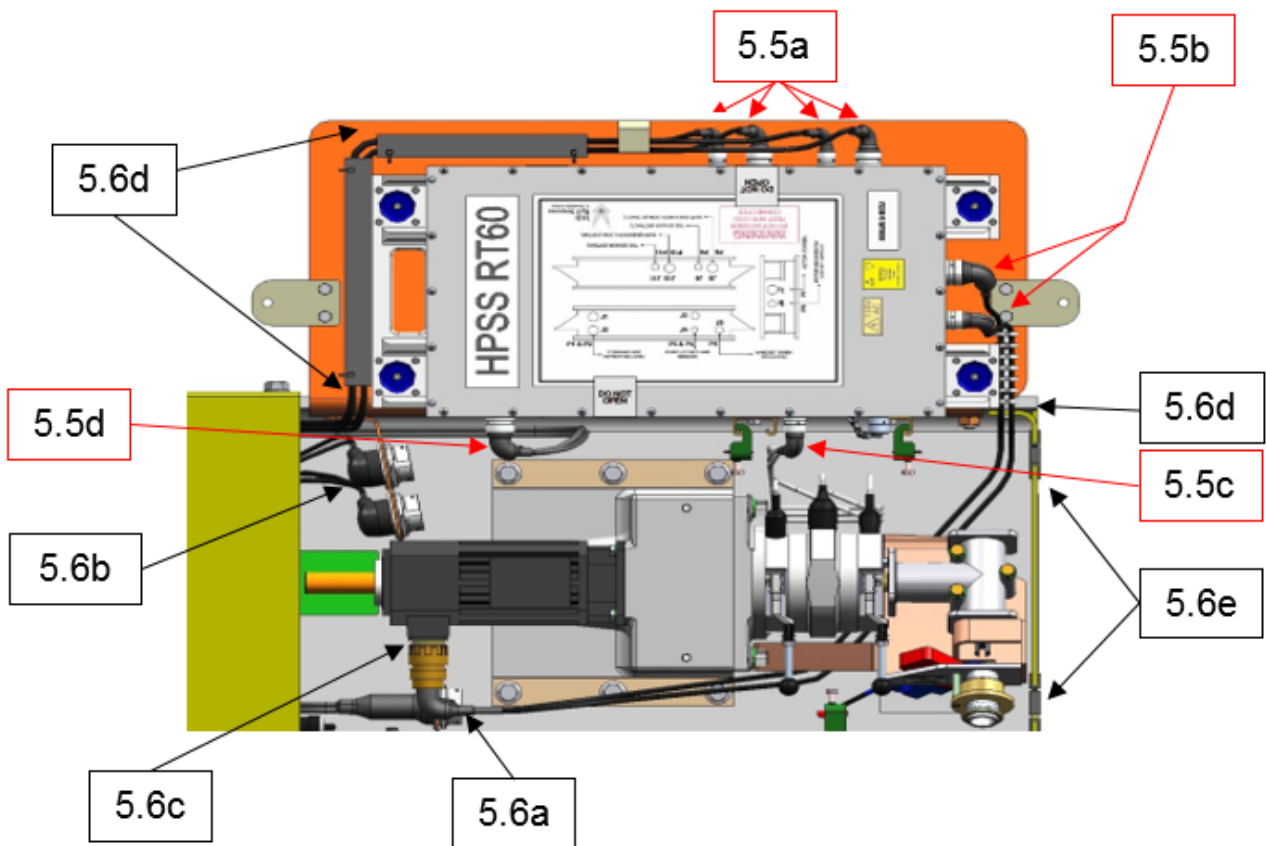

Figure 4
- 5.5 Check, that all plug couplers are securely connected to the ECU by attempting to gently rotate the bezel clockwise, use Figure 4 to assist.
- 5.6 Check the following within in the HPSA, use Figure 4 to assist.